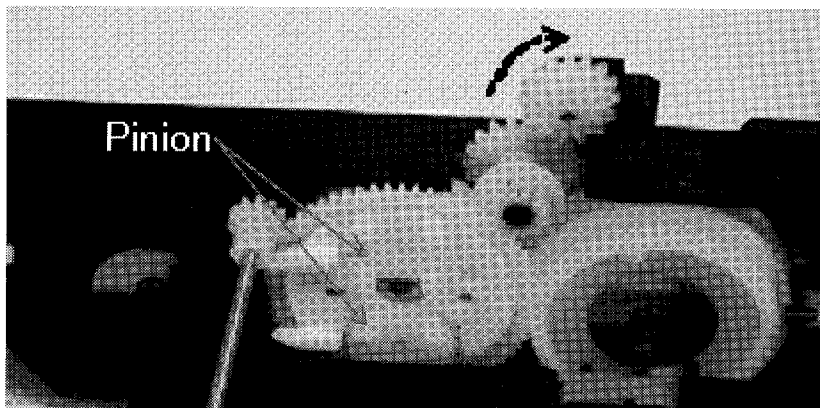

Fig.15
- A) First insert **CARRIAGE 30(63)** between ARM(44) and TURN TABLE and set it until inside end. Push SLIDER 2(36) block down and slide it until inside end. CARRIAGE is locked with ARM.
- 1) Turn BEVEL GEAR 4 (17) clockwise. The lower PINION in GEAR SUPPORT turns anti-clockwise. After it stops, the upper PINION turns clockwise. Just before the lower PINION starts to turn, stop to turn GEAR IDLER 2. Set **CARRIAGE 20(62)** as fitting it with the lower PINION as Fig. 15.